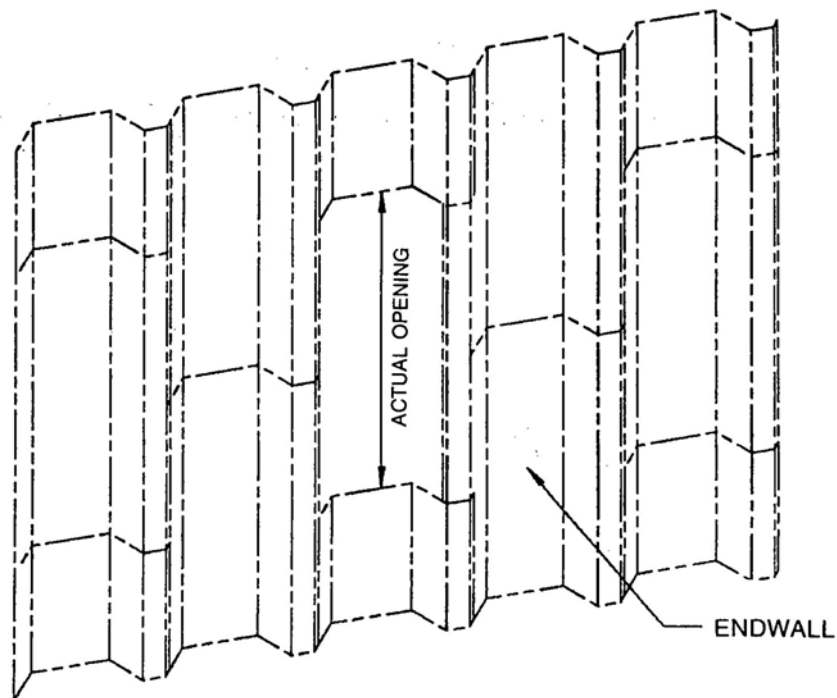

Figure 6-4A
Remove a section of one (1) endwall panel as shown below in *Figure 6-4A*.